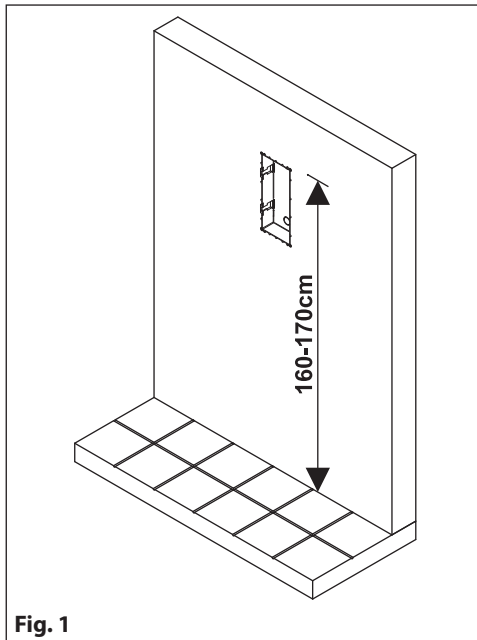
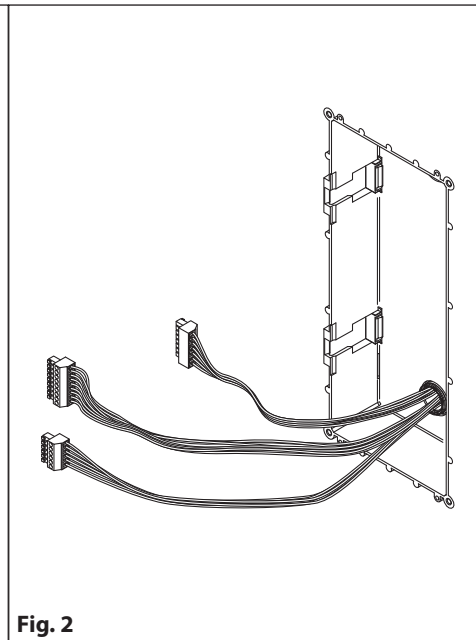
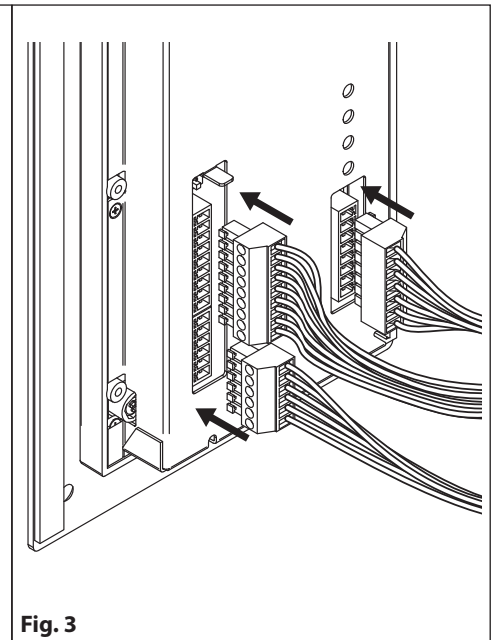

Fig. 1
Fig. 2
Fig. 3
1. Embed the flush mounting box into the wall (160-170 cm between the top of the box and the floor level as shown in **Fig. 1**) passing the cables (**Fig. 2**) through a cable knockout hole in the box;
2. Make all the connections on the removable terminal blocks (**Fig. 2**), then plug back into the panel (**Fig. 3**), setup the dip-switches as per provided connection diagram or instruction sheet, then power up the system and check that it works correctly;